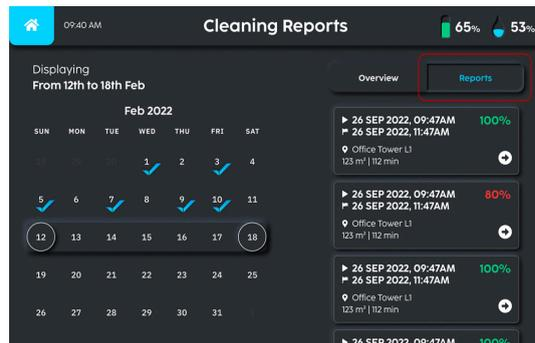

FIGURE 7-16
3. Choose the range of dates and select the 'Reports' tab to get a list of individual cleaning reports cards (Fig. 7-16).